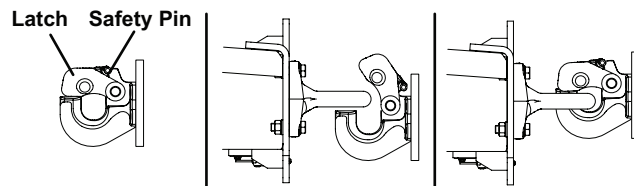

Figure 3
2. Open the receiver mount latch by removing the safety pin and lifting lock (Figure 3).